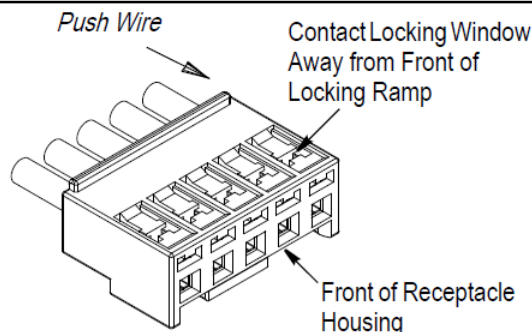
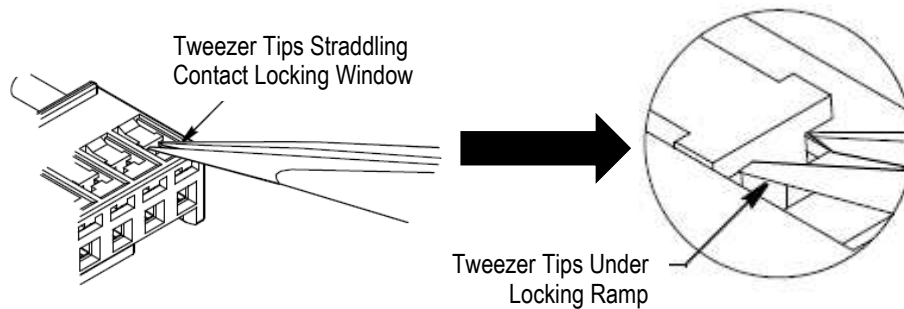
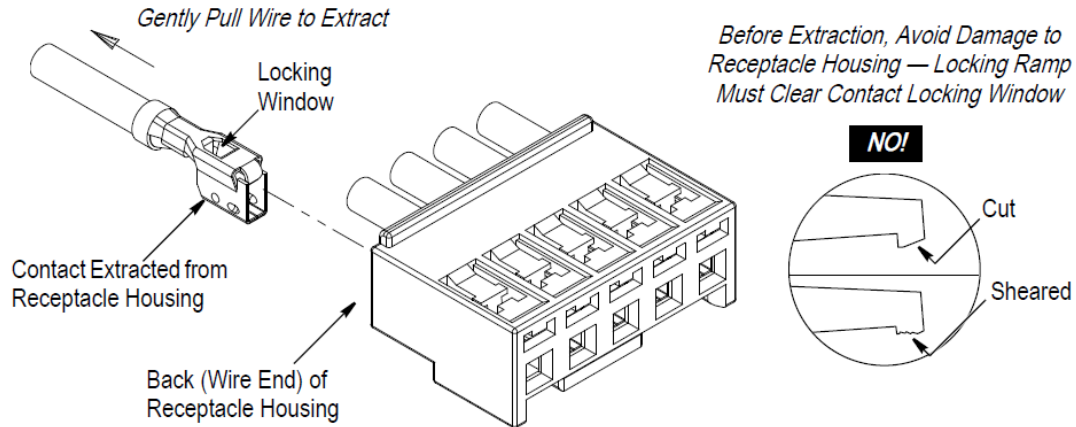

Figure 2
Figure 3
Figure 5
2. Grasp the wire of the contact to be removed, and push the contact toward the front (mating end) of the receptacle housing (this will move the front of the contact locking window away from the locking ramp). See Figure 2.
3. While keeping the contact in place, position the tweezer under the locking ramp so the tips straddle the contact locking window. See Figure 3.
5. While holding the locking ramp in position, gently pull back on the wire until the contact is free (see Figure 5).
DO NOT pull the wire abruptly. If the locking ramp is not raised enough to clear the contact locking window, the locking ramp will be cut or sheared (see Figure 5). DO NOT raise the locking ramp to check for damage; instead, after inserting a contact into that contact cavity, pull back on the wire to ensure that the locking ramp has engaged the contact locking window. If the contact pulls out, the locking ramp has been damaged and must be discarded. The contacts may be removed and re-used.
- ◆ Split Figure 2 Detail A, B, and C into Figure 2, 3 and 4. Also, original Figure 3 renumbered as Figure 5.